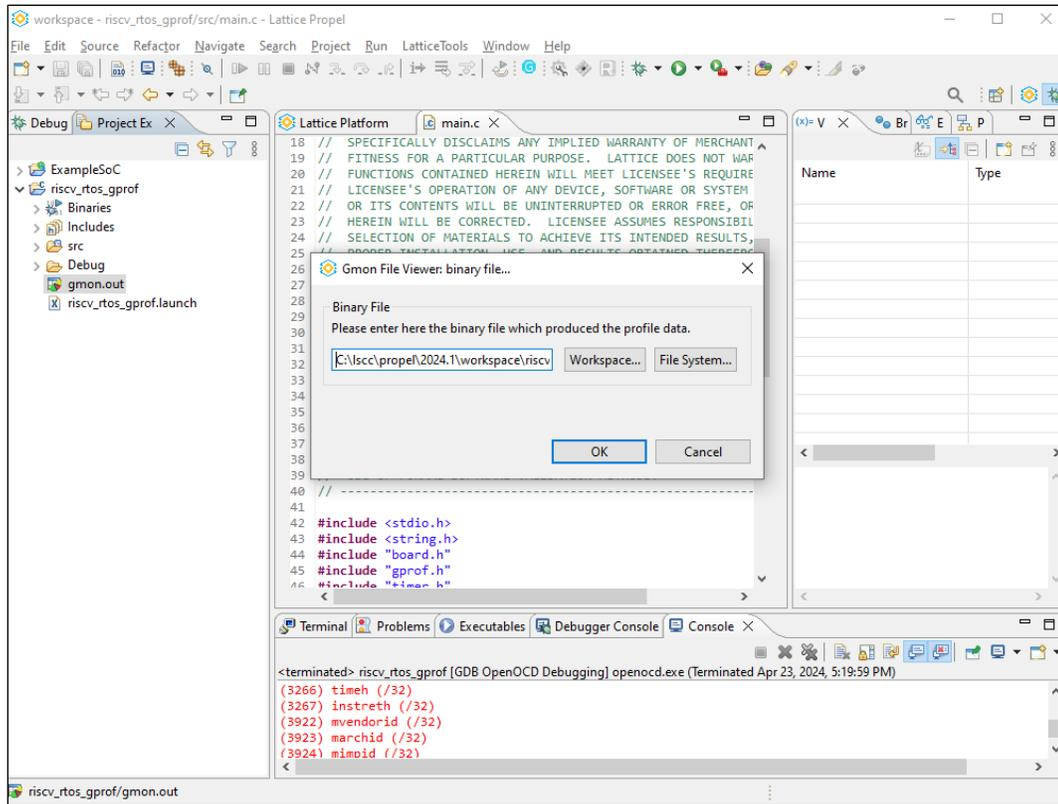

Figure 7.3. gmon File Viewer
1. Find the gmon.out file in Project Explore of the riscv\_rtos\_gprof project. Double-click this file (Figure 7.3). Click **OK**.